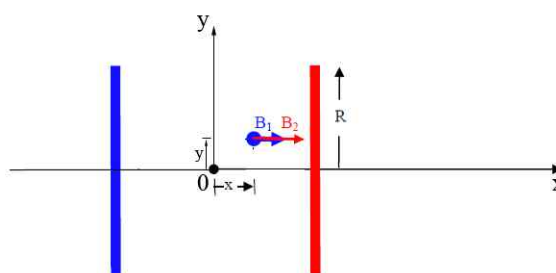

Figure 6. scanning the Magnetic field due to the Helmholtz coils with varying positions of the probe along x- and y-axes.
- ④ Set the Magnetic Field Sensor switch on Axial and x10 gain. *With the power amplifier off*, set the Magnetic Field Sensor in the middle of the track and the center of the first coil. Press the tare button.
- ⑤ *Turn on the power amplifier and adjust it until the current reads about 100 mA.* Click on START in Capstone and slowly move the Magnetic Field Sensor along the center of the track, keeping the probe parallel to the track, until the end of the sensor is about 5 cm past the second coil. Then click on STOP.
- ⑥ Use the Smart Cursor on the graph to measure the position of the center of the peak. *Click on the Capstone calculator and enter the peak position in for the constant (c) in the equation for the distance.* This will center the peak on zero on the graph.
- ⑦ Click on the annotation button at the top of the graph and put a note showing the position of each coil on the graph. Is the magnetic field strength constant between the coils?
- ⑧ Calculate the theoretical value for the magnetic field between the coils and compare it to the measured value on the graph.
- ⑨ Now change the y-positions from center of the Helmholtz coils with increasing the y-positions by 1.0 cm above the midway. Repeat steps 3 through 6. See Figure 6.
- ⑩ Now change the separation between the coils to half the radius of the coils.